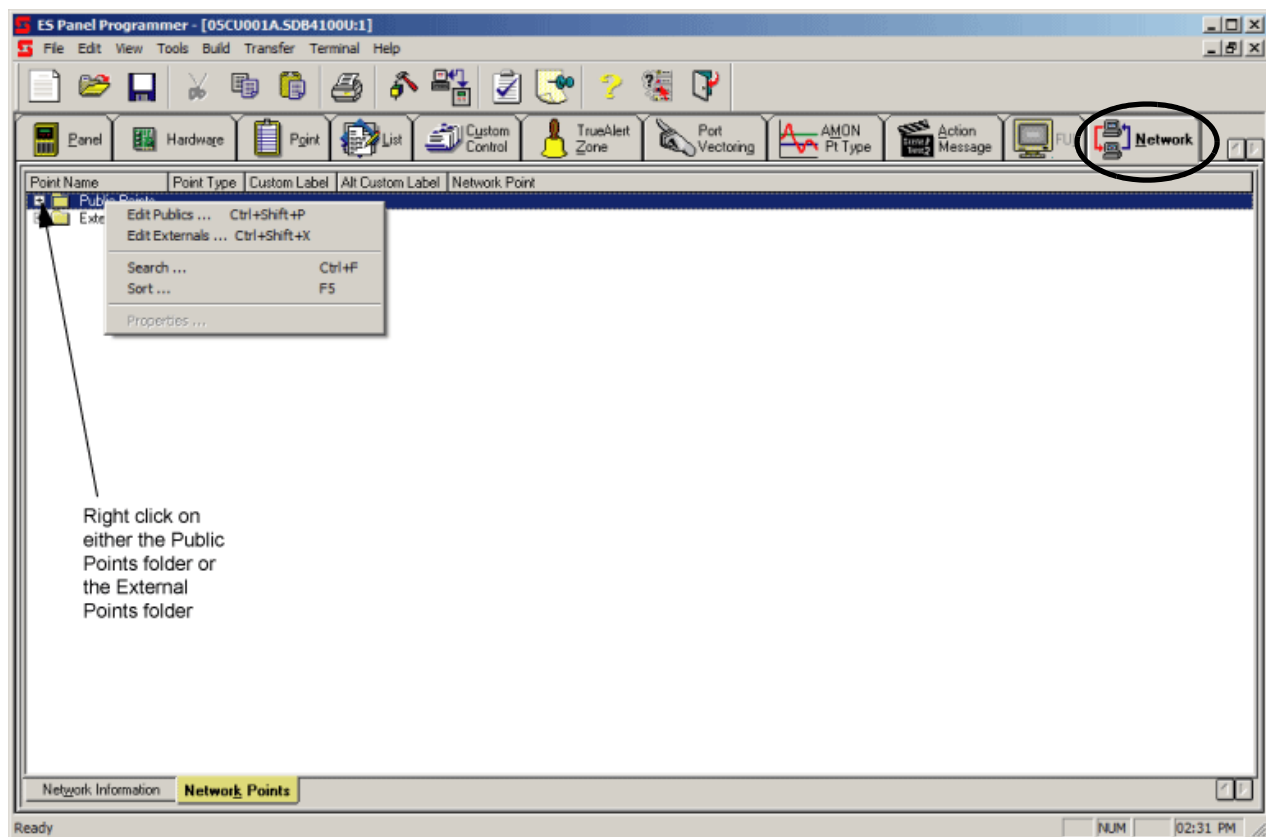

Figure 13-1. Network Tab
The Network Tab provides access to the dialogs used to add and edit the lists of public and external points. Click on the Network Tab to see the screen shown in Figure 13-1.
1. Click on the **Network** tab shown in the upper right corner of Figure 13-1.